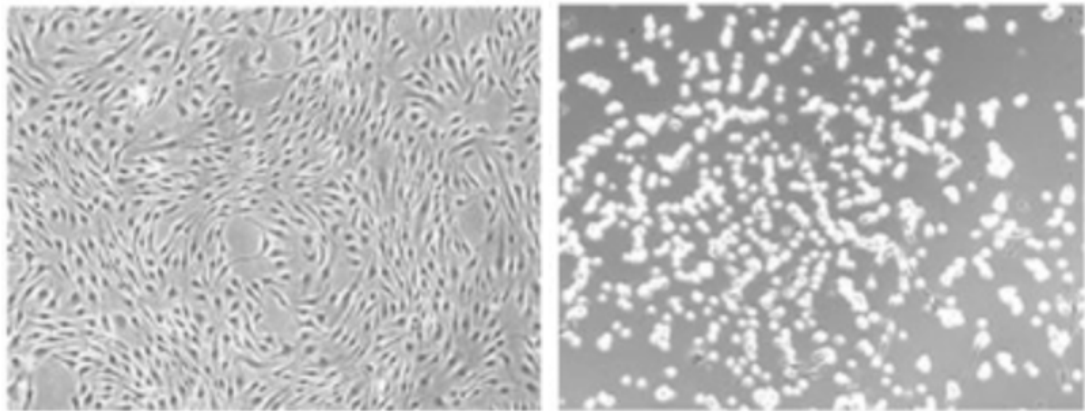

Fig. 1: Example images of adherent cell culture before (left) and after (right) cell detachment with trypsin¹
- a. The cells should appear circular and detached (Fig. 1). If cells are circular but not detached, firmly tap (~5 times) each side of flask to help cells detach. Wait (~30 sec) and repeat as necessary until no/very few cells are visibly attached under microscope.